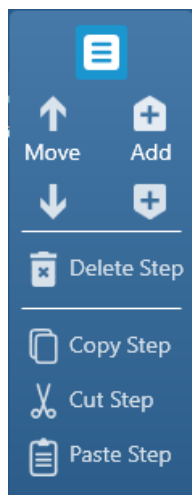
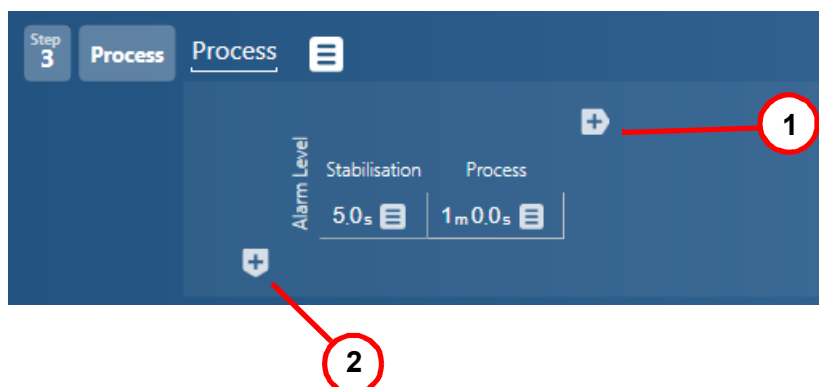
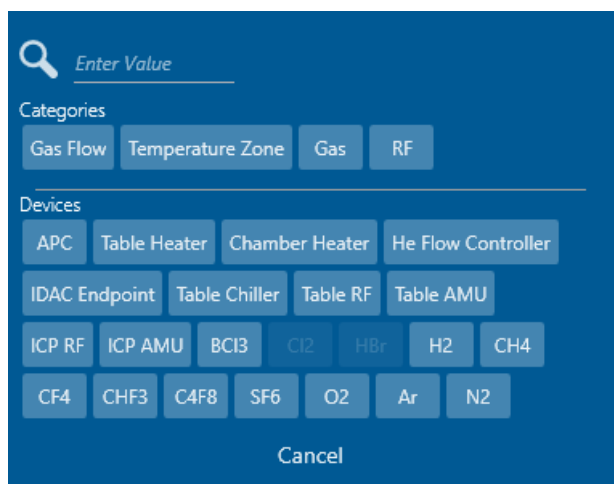

Figure 5-15 More Commands menu
Figure 5-16 Process step
Figure 5-17 Categories & Devices menu
- 7 Click on the More Commands icon  to access the More Commands menu (see Figure 5-15).
- 9 Click on the More Commands icon to access the More Commands menu (see Figure 5-15) to add another step. This is typically a Process step (see Figure 5-16).
- 10 A new process step has a Stabilisation column and one Process column, as shown in Figure 5-16. Click on item 1 to add further columns to the process step. This might be needed if, for example, the process is to be started and stopped several times. Click on item 2 to display the Categories and Devices menu, see Figure 5-17.
- a) Click on the More Commands icon  for the step. The More Commands menu appears, see Figure 5-15.
- b) Click on the More Commands icon  for the step. The More Commands menu appears, see Figure 5-15.
- e) Click on the More Commands icon  for the step above where the step is to be added. The More Commands menu appears, see Figure 5-15.